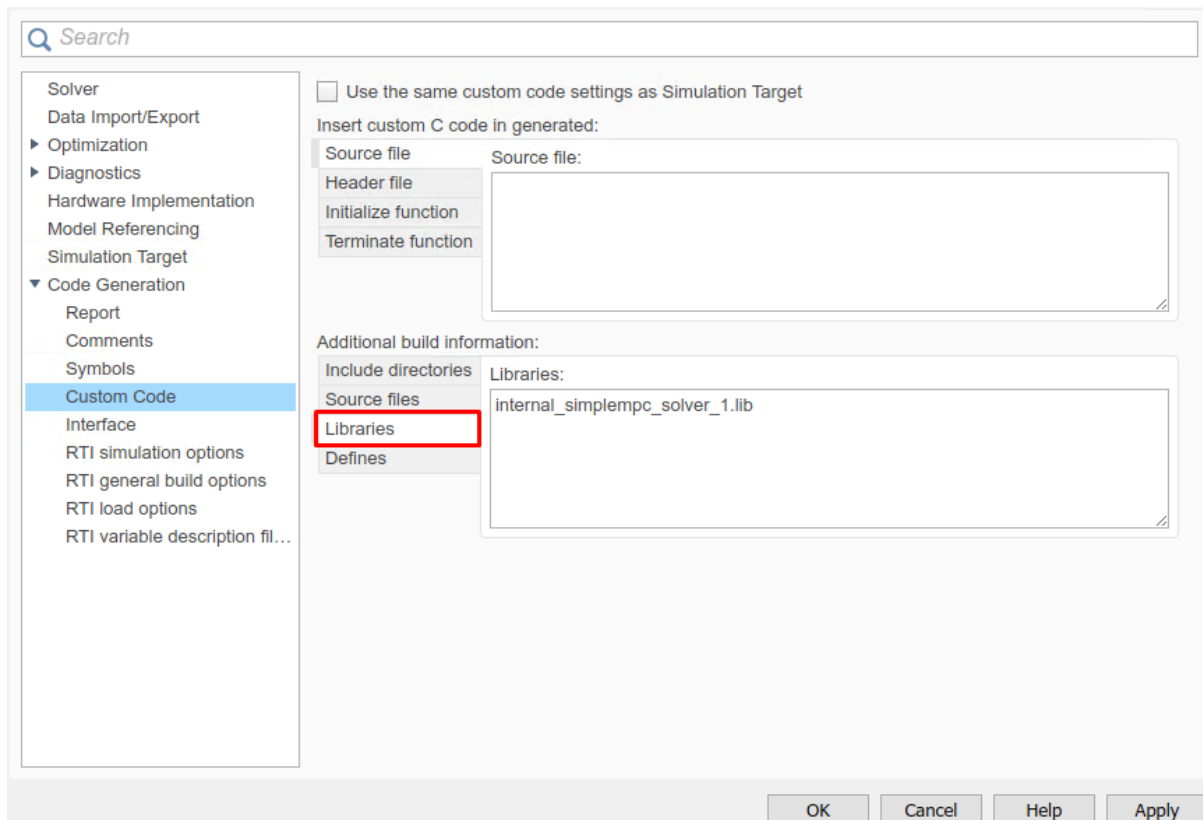

Figure 13.26: Add the libraries used for the code generation.
11. (Figure 13.26) In the “Code Generation/Custom Code” tab, add the library files: